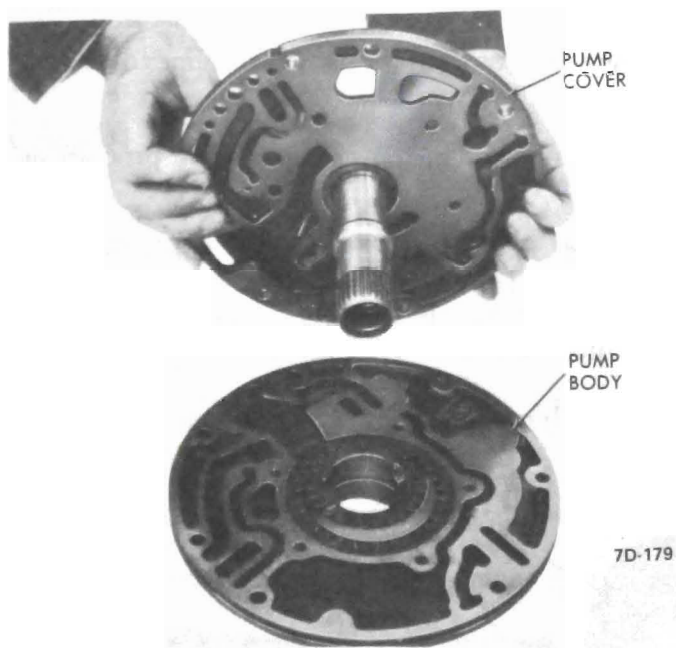

Figure 7D-115
11. Mark drive and driven gears for reassembly in same position and remove. See Figure 7D-117.